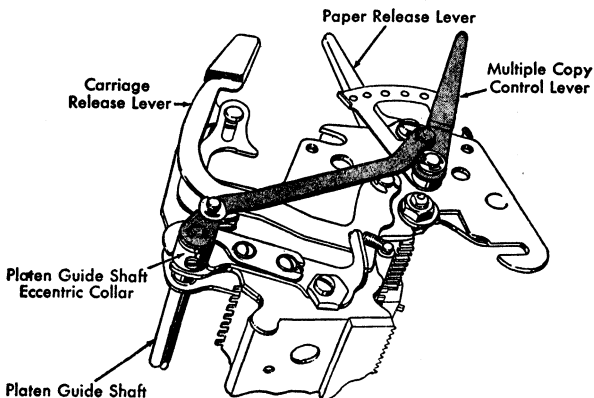

Figure 17. Copy Control Lever
3. Unhook the copy control lever link by removing the horseshoe clip at the platen guide shaft (Figure 17).